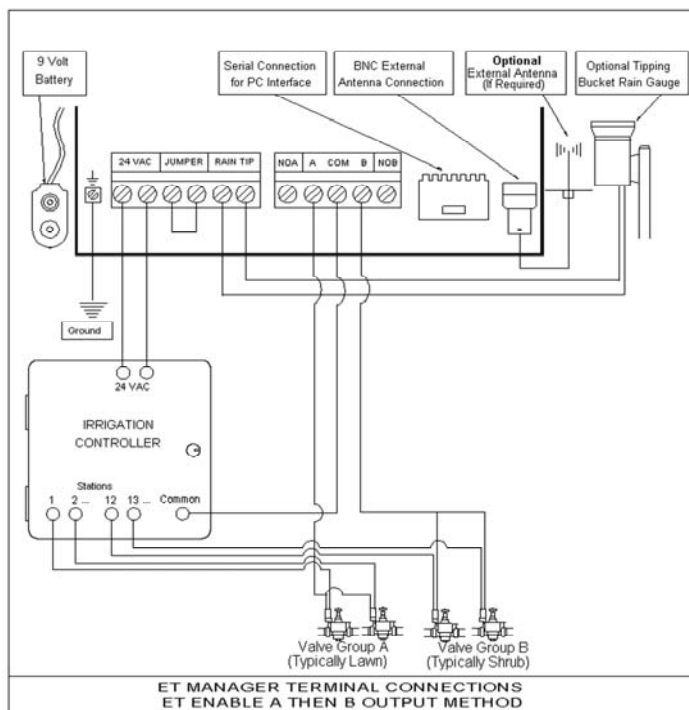

Figure 15. ET Manager Terminal Connections ET Enable A Then B
- Your sprinkler controller, ET Manager, and valves must be installed correctly, see Figure 15.